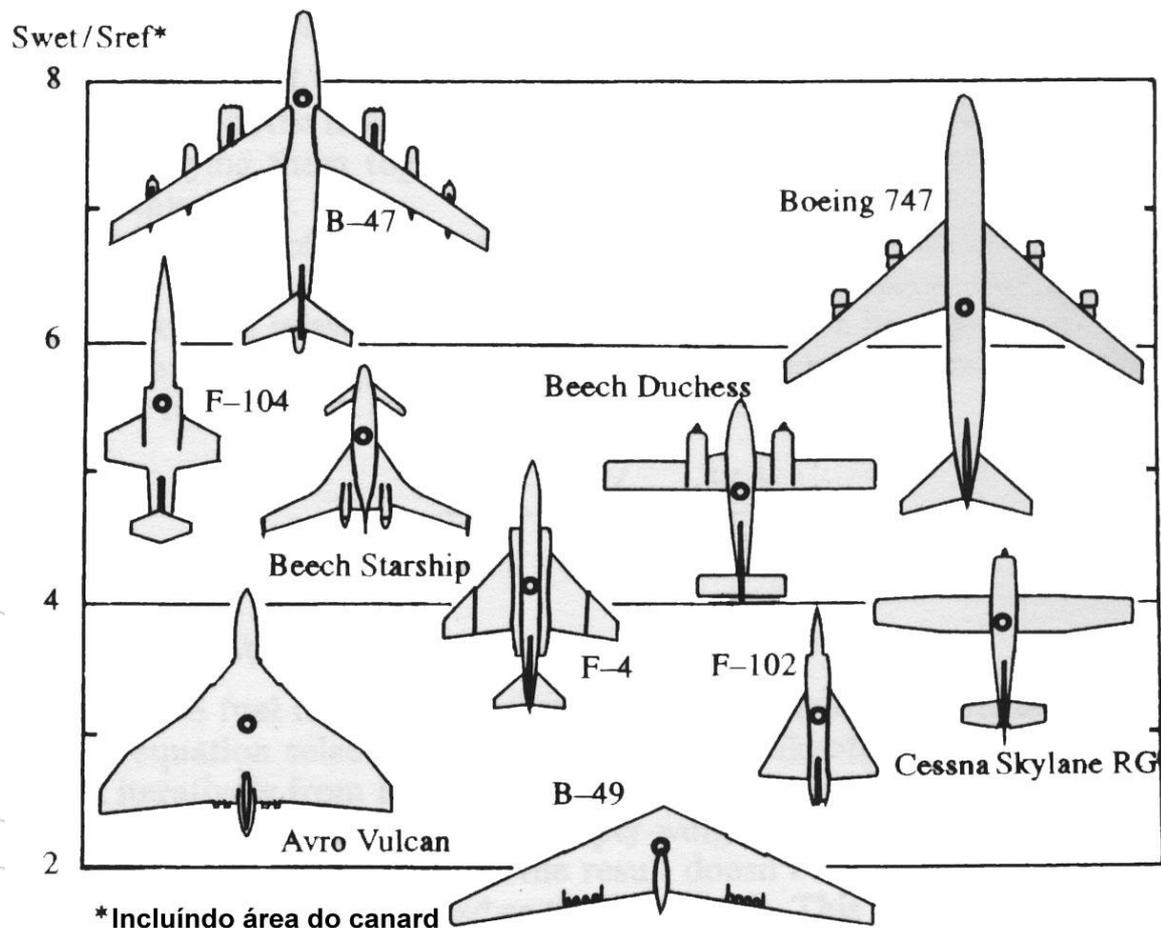

Figura 2
- $S_{\text{wet}}/S = 4$  (figura 2)